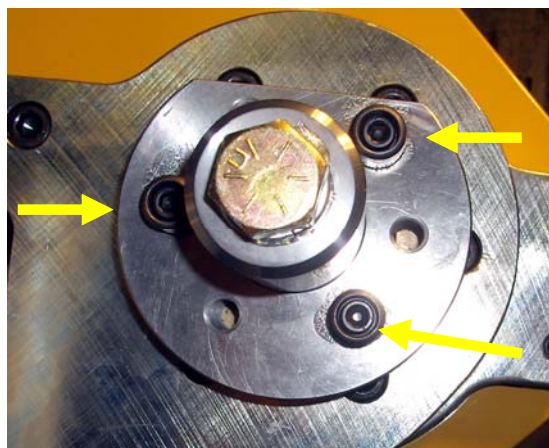

Figure 1 Spindle drive pins and hold down bolts
- iii) The programmer will display the “**RMD MAIN SCREEN**” see Fig.1 & 2
- iv) At this point, the screen in Fig1 or Fig 2 will be displayed, Fig 1 allows only one bend direction, and Fig 2 allows you to choose the bend direction. If the non standard bend direction is chosen, a Warning screen is displayed Fig 2.2, this is to ensure the proper tooling is chosen for a given bend direction.
i) Choose “**RUN, VIEW OR EDIT A PROGRAM**” from the **RMD MAIN SCREEN** Fig1